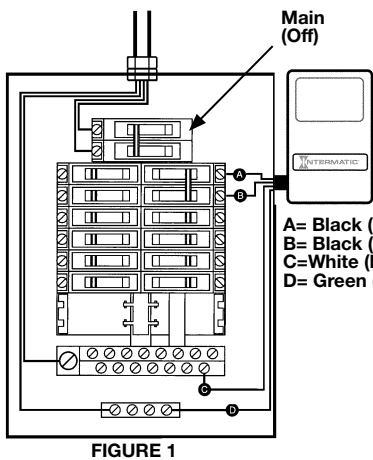

FIGURE 1
2. Connect the green wire from the SPD to the ground bus bar within the panel as shown in figure 1.
3. Connect the white wire from the SPD to the Neutral bus bar within the panel as shown in figure 1.
4. Connect the two black wires to a circuit breaker as shown in figure 1. For best performance from SPD the maximum recommended circuit breaker size of 240V 20A 1 or 2 pole should be used.